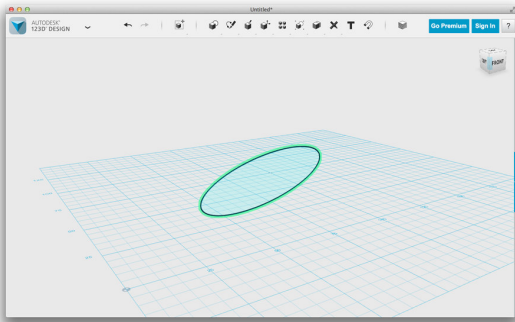

Figure 4-88 Select the sketch to be offset
2. Select the sketch that you want to offset (Figure 4-88).